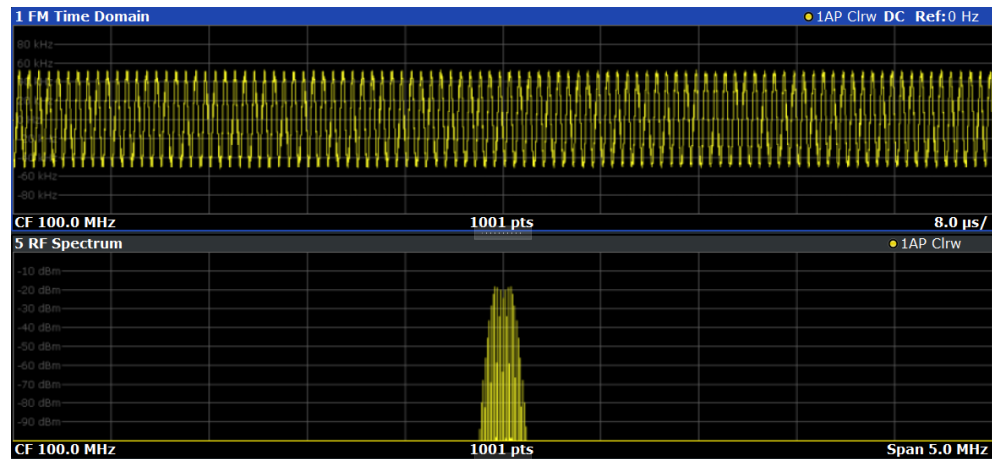

Figure 9-4: RF spectrum of FM signal with default demodulation bandwidth = 5 MHz
8. As you can see in Figure 9-4, the default demodulation bandwidth of 5 MHz is much too large - the actual signal takes up only a small part of the displayed range. That means that any noise or additional signals apart from the FM signal of interest may be included in the measured results. Select "Demod BW" and reduce the value to 200 kHz.